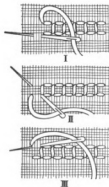

FIGURE 50
*Italian Hemstitching* (Figure 50). — Work on the right side of the material from right to left, with the bulk of the material toward you and the smaller amount falling over your hand. A blunt needle and round linen thread are desirable to use. Two rows of threads are drawn, leaving a few threads between the drawn rows. The number of threads drawn and the number left in between depend upon the material and design to be used. A few running stitches are taken between the two rows of drawn threads to fasten the thread. Insert the needle from right to left at the top of the lower drawn threads under the first group of threads (I). Then draw the needle through, taking a stitch back over the same group of threads (II). Draw the needle through and